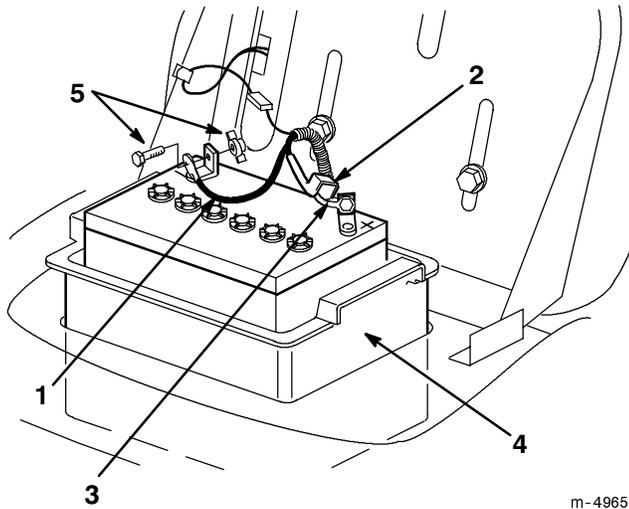

Figure 20
3. Disconnect the negative (black) ground cable from the battery post (Fig. 20).
- Slide the rubber cover up the positive (red) cable. Disconnect the positive (red) cable from the battery post (Fig. 20).
- Remove the battery box and battery from the chassis (Fig. 20).
- Put the battery into the battery box and install into the chassis (Fig. 20).
- Using the bolt and wing nut, connect the positive (red) cable to the positive (+) battery post (Fig. 20). Slide the rubber cover over the battery post.
- Using the bolt and wing nut, connect the negative (black) cable to the negative (-) battery post (Fig. 20).